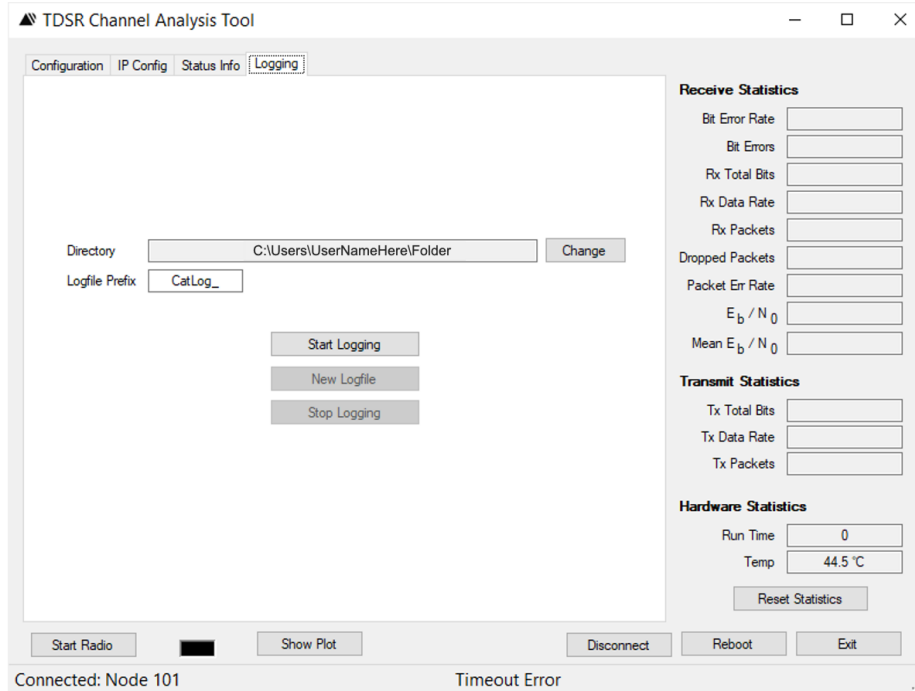

Fig. 24: Logging Tab
2. Click on the Logging Tab. The screen shown in **Figure 24** should appear.